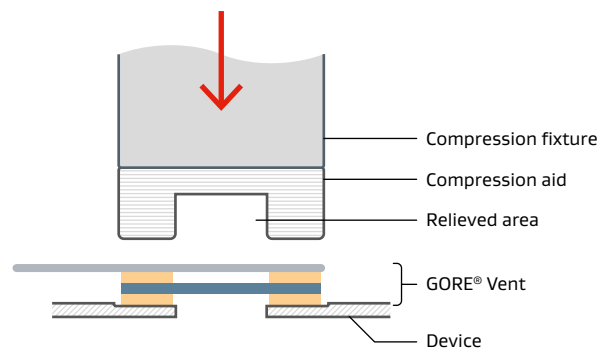

Figure 6: Grooved compression aid
- To apply uniform compression of the adhesive area of the vent only and to prevent contact with the active area, use a compression aid with the following specifications (Figure 6):